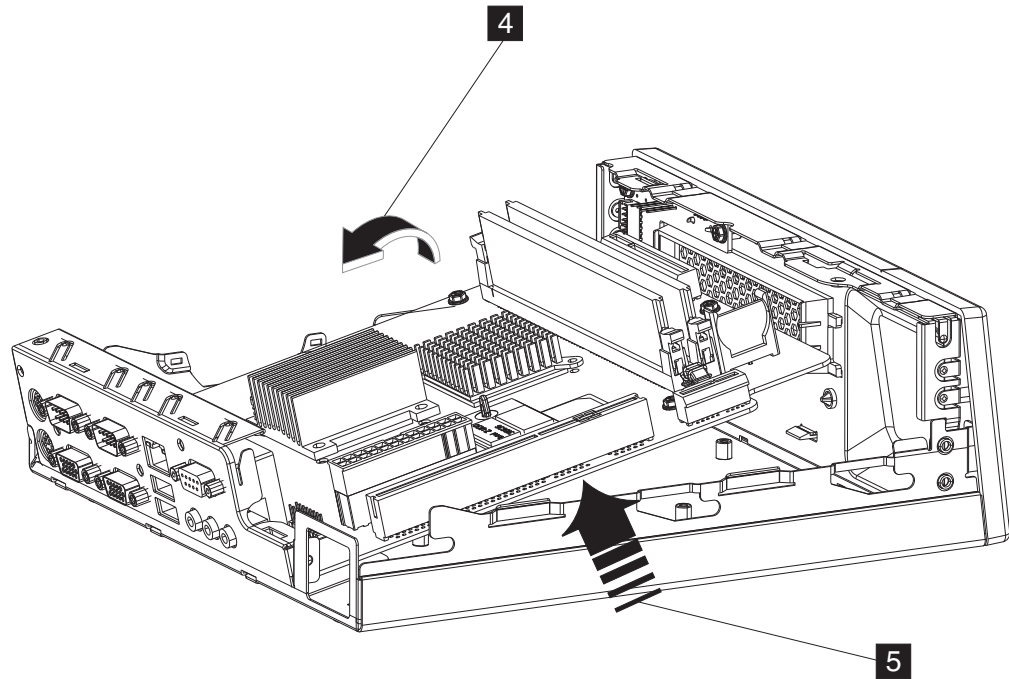

Figure 22. Tilting and removing the system board
8. Remove the system board by tilting it **4** as shown in Figure 22; then lift up **5**.